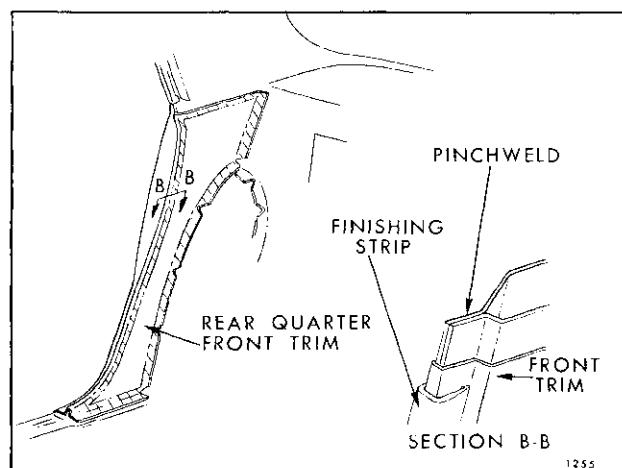

Fig. 14-27—Rear Quarter Trim Assembly - "A" Four - Door Styles
5. On “A” and “X” Styles, carefully break cement bond securing leading edge of trim to lock pillar pinchweld flange (Figs. 14-27 and 14-28).